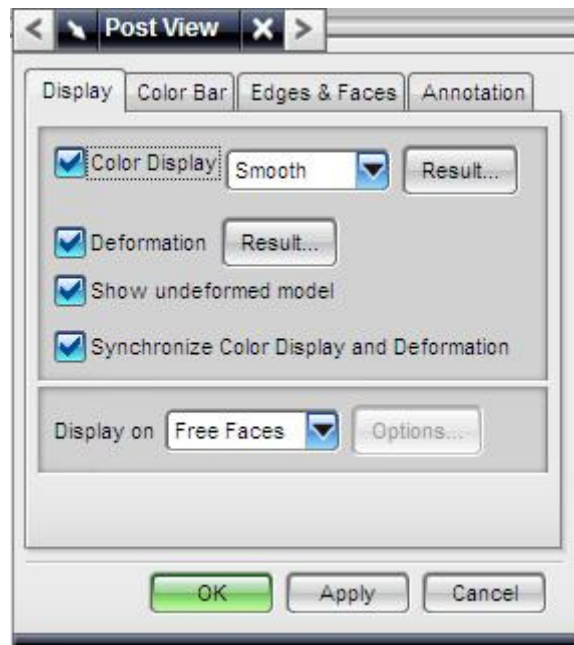

Figure 10. Post View Dialog
- c) To show the undeformed shape at the same time as the deformed results, double-click on “Post View 1” in the “Post-Processing Navigator.” In the “Post View” dialog, shown in Figure 10, check “Show undeformed model”.